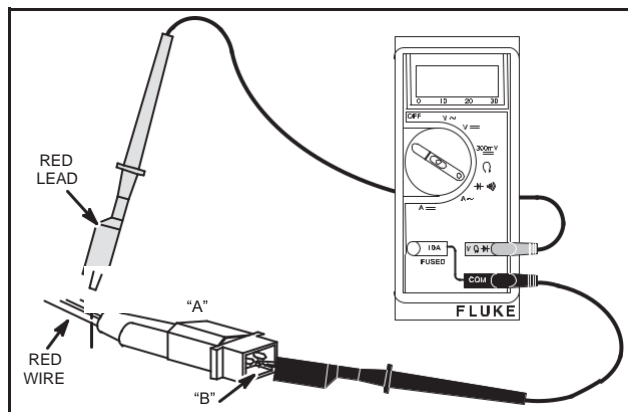

Fig. 14 – Testing Diode
4. Attach RED test lead clip to point "A" and BLACK test lead clip to point "B," Fig. 14. (It may be necessary to pierce wire with a pin as shown.)